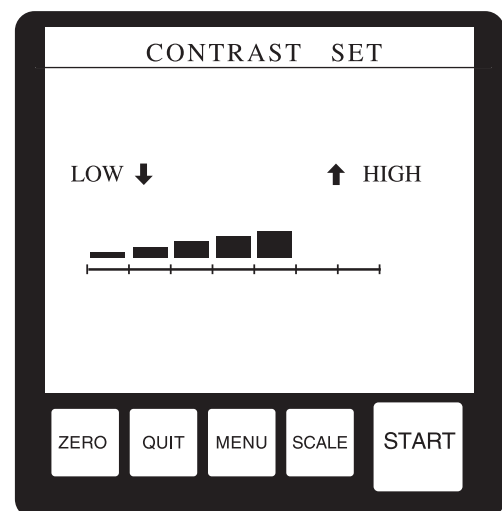

Fig.20-2
- Using ↓ or ↑, move the arrow (→) on the screen so that it points to "4 MANUAL CALIBRATION," and then press the ← key. The screen shown in Fig.20-2 will appear on the display panel.